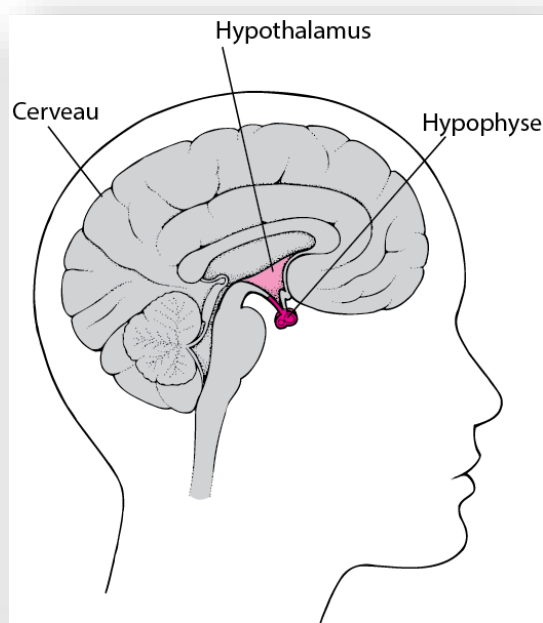

Figure 38 : Place of the human pituitary gland in relation to the encephalon.
* If this deficiency is diagnosed early enough, children can be given regular growth hormone injections that stimulate their growth so that they can eventually attain nearly normal heights (figure 38).